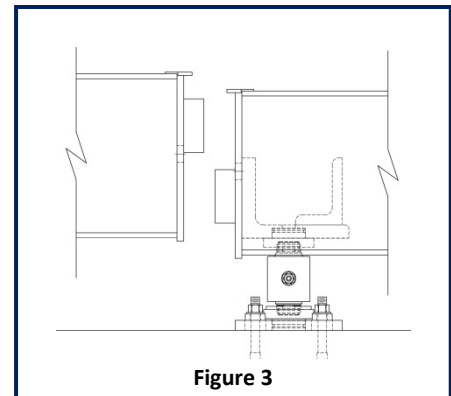

Figure 3
5. **BEFORE YOU LIFT!** Safely rig the scale module with the provided lifting points on the side of the scale. **DO NOT LIFT BY SUBFRAME or RUBRAILS**, the module and sub-frames are secured together with shipping brackets. Lift the left end module and prior to setting the module, **SAFELY** use pry bar to dislodge four (4) shoring timbers located between the scale and the sub-frame structure. Do not stand under the module. Once those shoring timbers are removed, set the left end module assembly so that the end with the load blocks are set onto – and bearing down on – the center module load blocks. Place the end module square with the center module so the two are in-line and the sub-frames are touching. See Figure 3.